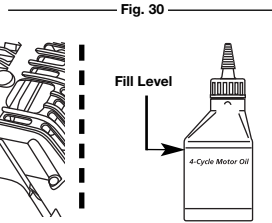

Fig. 32
1. Open the air filter cover. Push the tab on the under side of the cover inward. Then pull the air filter cover out and up. (Fig. 32).
2. Remove the air filter (Fig. 32).